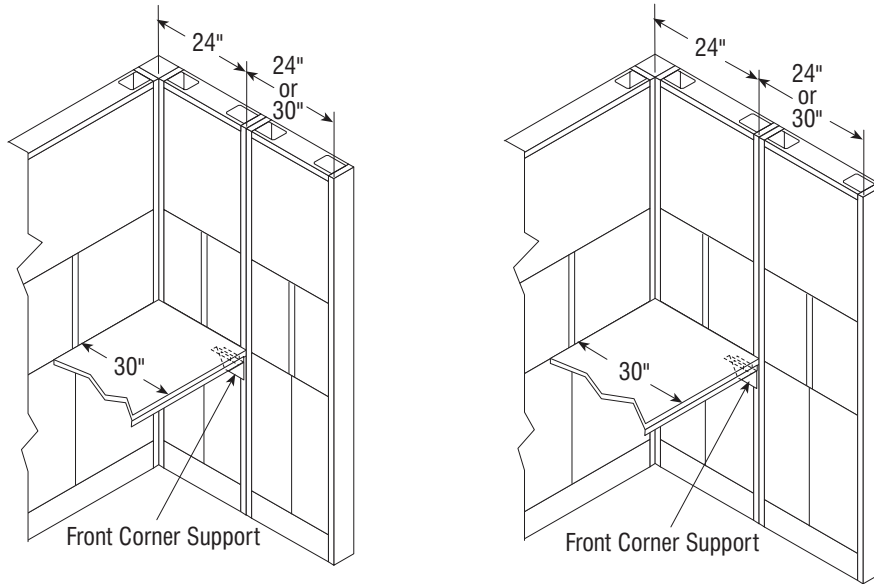

Figure 1-12
- 11. The addition of a second 24" or 30" wide wall frame to an existing end panel is permissible only when the first end panel is attached to the work surface with a front corner support. See Figure 1-12.